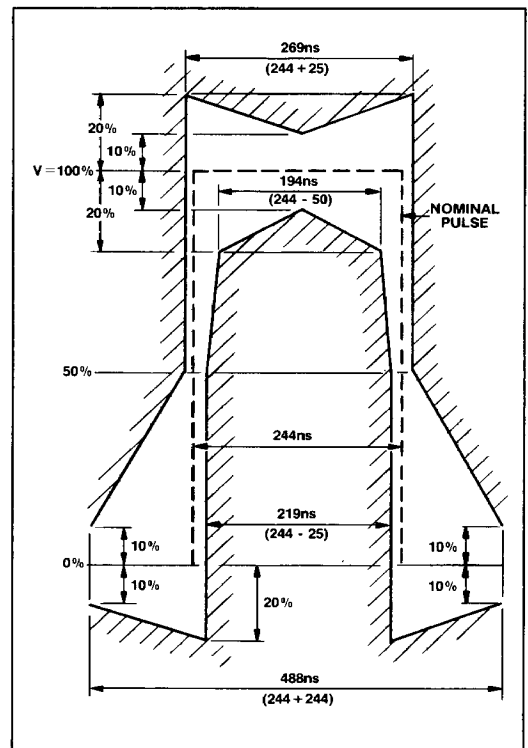

Fig.3 Input signal pulse mask
- Per CCITT G.703 pulse mask. See Fig.3.